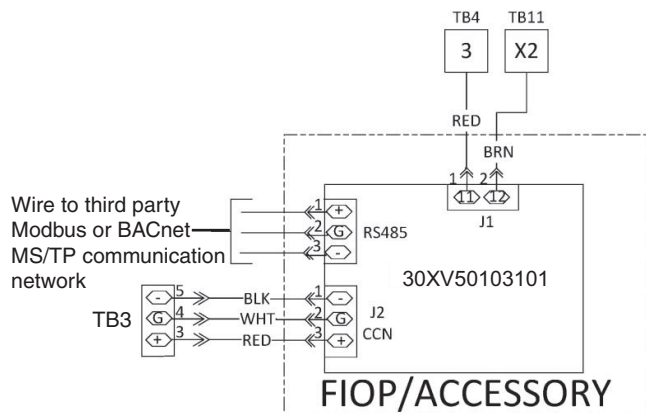

Fig. 6 — BACnet/Modbus Translator Module Wiring Diagram
2. Referring to Fig. 6, for 30XVB 140-325 locate wire harness (P/N 3050119801, item #7), for 30XVA 140-325 and 30XVA/XVB 350-500 locate wire harness (P/N 30XV50103101, item #6) in the accessory kit.
7. Referring to Fig. 6, connect black wire labeled LON/BAC J2- to the terminal marked J2- on the BACnet/Modbus Translator board.